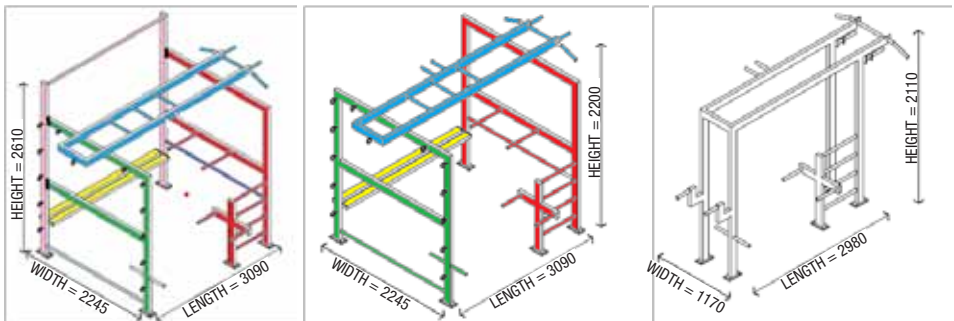
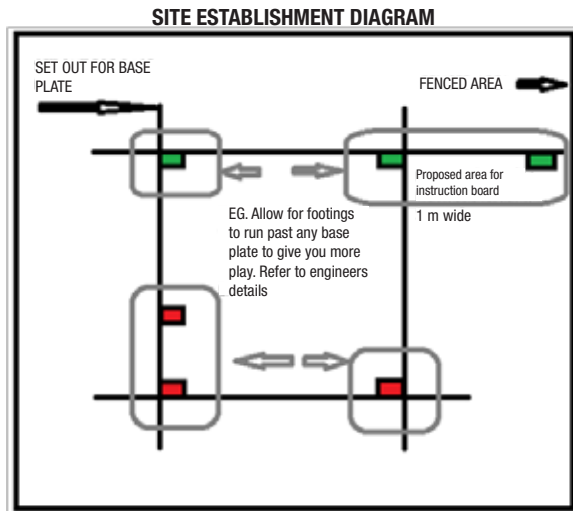

FIG 1. Instructions Board are approximately 1m wide and usually run in the width direction.
FIG2.
**REFER TO FIGURE 1 Page 4 and FIGURE 2 page 5.**